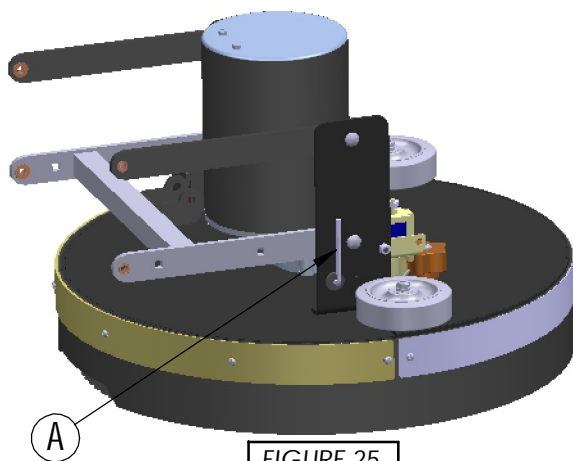

FIGURE 25.
3. TO REMOVE TANK BOLTS, USE 3/16" ALLEN WRENCH "A" PROVIDED WITH MACHINE, LOCATED ON SIDE OF SCRUBDECK LIFTING BRACKET. (SEE FIGURE 25.)